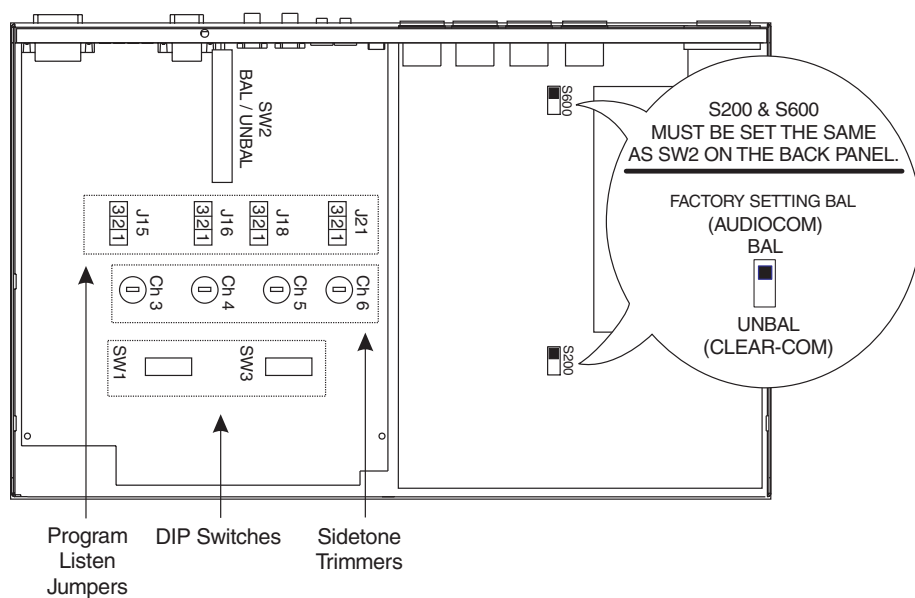

Figure 2. Locations of configuration switches, jumpers, and sidetone controls. (Top cover removed.)
12. Configuration Switches, Jumpers and Sidetone Controls (Figure 2). These let you customize the operation of the EMS4000 to match your intercom system requirements. See “Configuration Pre-check”, page 7, for details.
Before making connections, read the configuration notes that follow, and make sure that all switches and jumpers are properly set for your intended usage. Locations of configuration switches and jumpers are shown in Figure 2. Only the DIP switches and jumpers require internal access. If access is required, remove 3 screws from the top cover and 3 screws along the bottom edge from each side.
* These switches apply only when the BAL/UNBAL switches SW2 (back panel), S200 and S600 (both internal) are set to the BAL position for Audiocom usage (see Figure 2). When the switches are set to the UNBAL position, call send and receive are always enabled.
By default, each program input can be heard by intercom stations on the corresponding intercom channel. (This can be turned on or off for each program input via the MS2000 front panel programming. See "Turning the Program Inputs On and Off" in the Operation section of the MS2000 User Instructions.) Additionally, all program signals can be heard directly in the MS2000 speaker or headset, and each program is output at the corresponding speaker jack on the back of the EMS4000. To disable direct program listening for a program input, reset the appropriate jumper as shown in Table 2. Locations of the jumpers are shown in Figure 2, page 6.